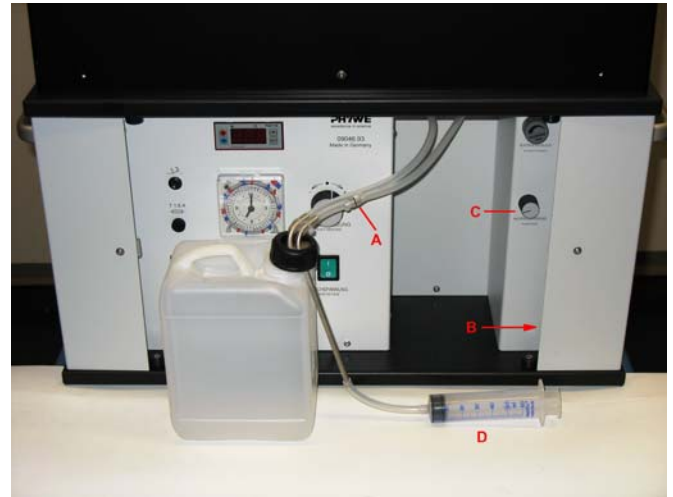

Fig. 8: Manually filling the pump
If the alcohol pump should not pump anymore after a longer downtime, do as follows (see Fig. 8): Check the filter (A) for contamination and clean it if necessary.